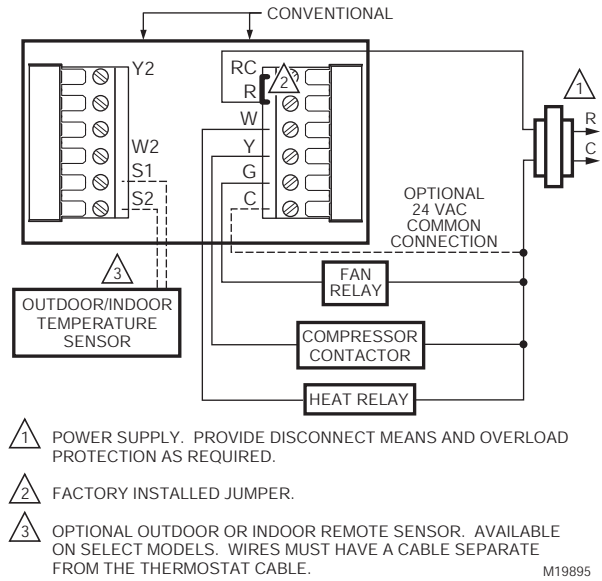

Fig. 9. Typical hookup of conventional single-stage heat and cool system with single transformer (1H/1C conventional).
WIRING (FIG. 9 - 21)
6. See Fig. 9 through 21 for typical wiring hookups.